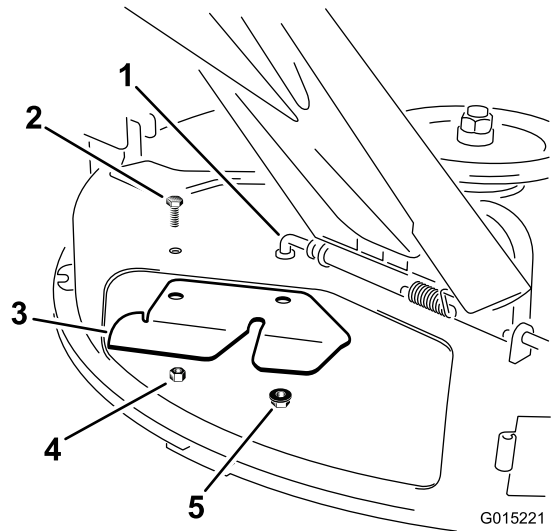

Figure 25
3. Install the bagger-cutoff baffle to the underside of the deck (Figure 25). Secure it with the fasteners removed previously.